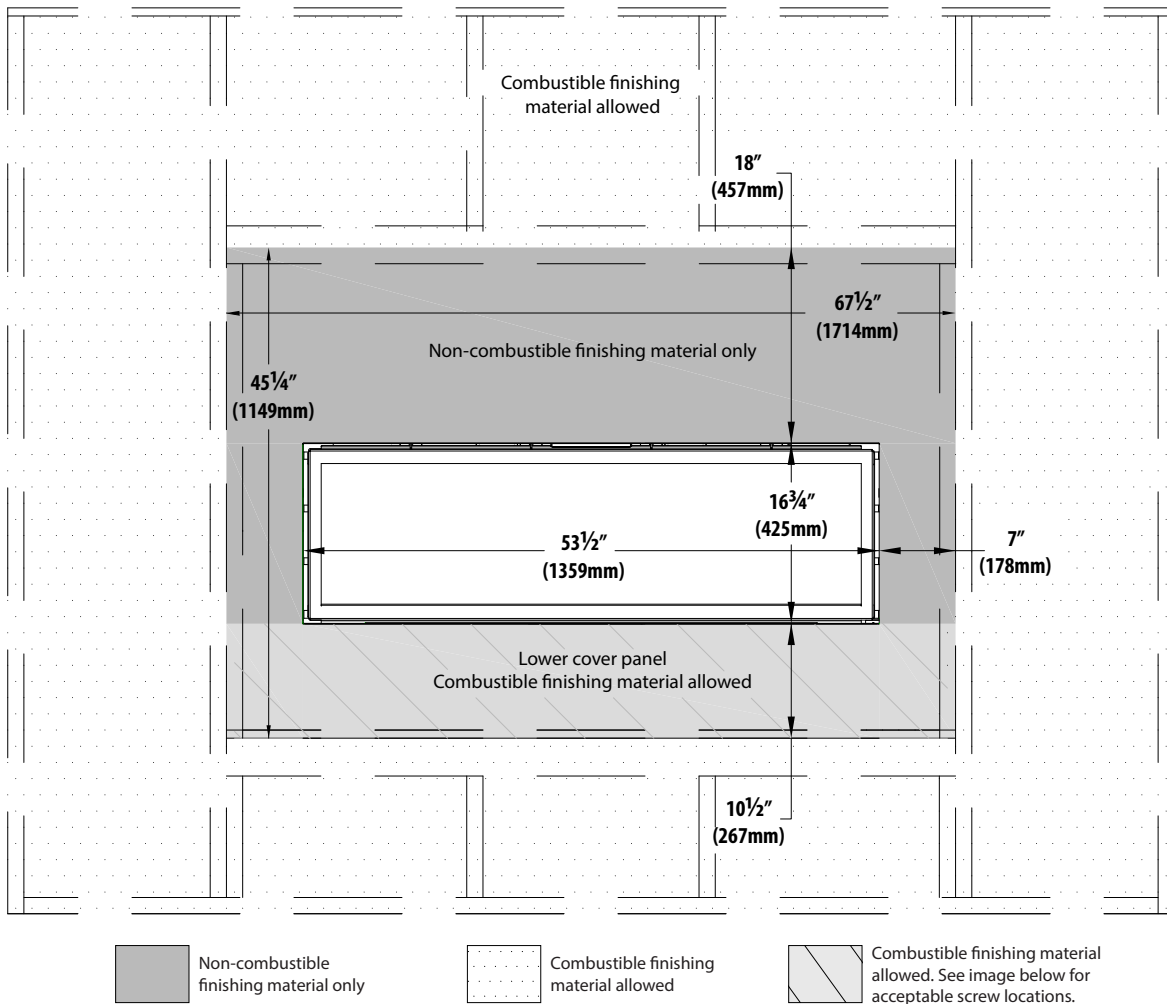

Figure 4.5, Minimum Non-Combustible Finishing Dimensions
- Non-combustible material is required at the top and sides of the fireplace. This fireplace is designed to accommodate non-combustible facing material up to 1/2" (13mm) thick. See Figure 4.5 on page 39 for dimensions.
- Non-combustible material is required at the top and sides of the fireplace. This fireplace is designed to accommodate non-combustible facing material up to 1/2" (13mm) thick. See Figure 4.5 on page 39.